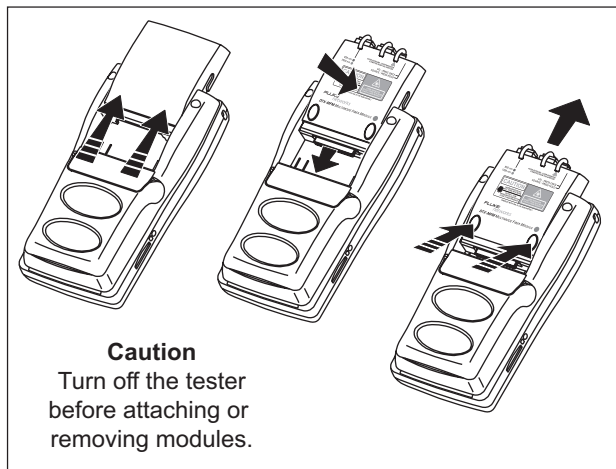

Figure 2-8. Installing and Removing Fiber Modules
- 1-2 Remove the cover from the back of each unit and install a DTX-MFM or DTX-SMF module in each unit, as shown in Figure 2-8.